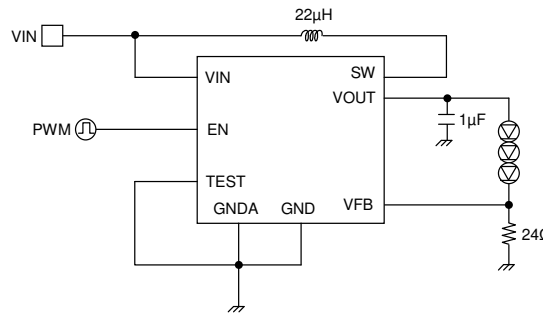

Figure 17. The brightness adjustment example of EN terminal by PWM (f_{PWM} = 100Hz ~ 300Hz)
1) PWM brightness adjustment is made by giving PWM signal to EN as shown in Figure 17.